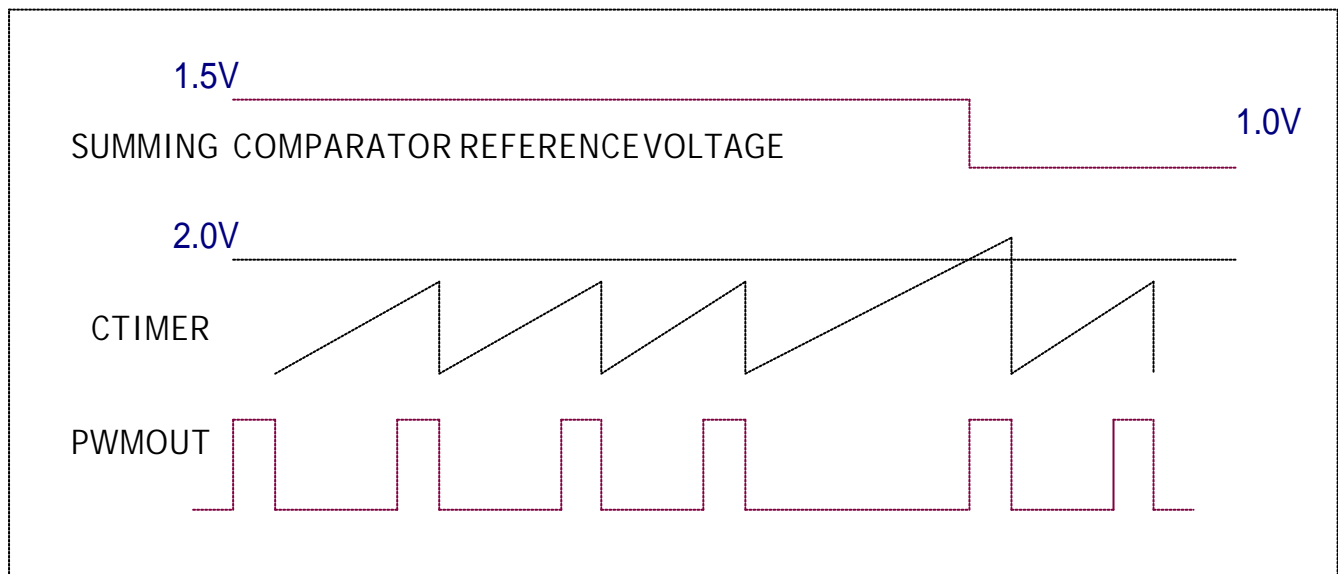

Figure 3
SUMMING COMPARATOR (I+V) (see Figure 3)
1.5V. The lowering of the reference voltage in the summing comparator will reduce the further reduction in frequency during light load. When the load goes up, the frequency of the external MOSFET will increase and the peak value of the CTIMER will reduce. When the peak value of the CTIMER is below 0.9V, the reference voltage in the Summing Comparator will be latched back to 1.5V to minimize the increase in operating frequency. (See Figure 3)